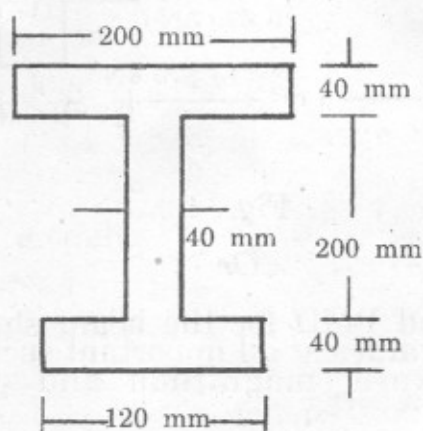

Fig. 7
5. (a) The cross-section of a simply supported beam of 5 m span is as shown in Fig. 7. If permissible stresses are 100 MPa in compression and 40 MPa in tension. Find safe UDL the beam can carry. [8]